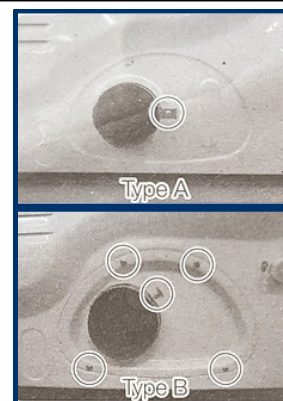

FIG. 1
**STEP 3:** Remove the exhaust cover for Type B dryers only (Fig. 1).